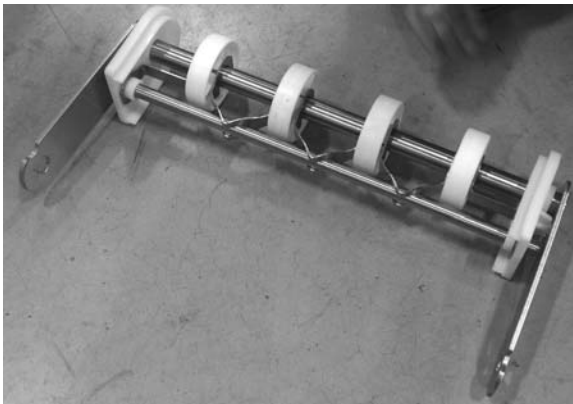

Figure 90
4. Place entire assembly on work surface (**Figure 90**).